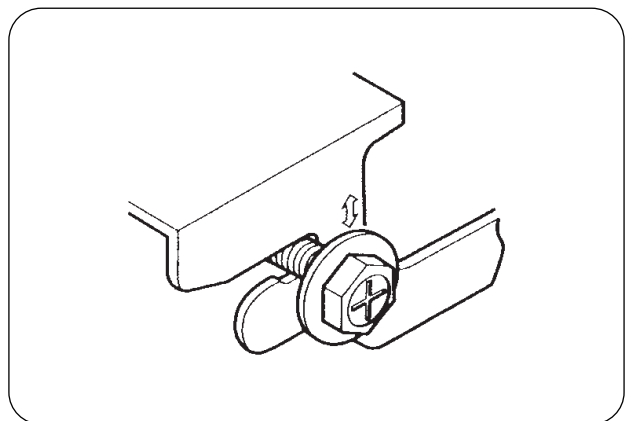

Fig.7
(5) Lift the unit and slide forward unit the dent (Refer it Fig.7).